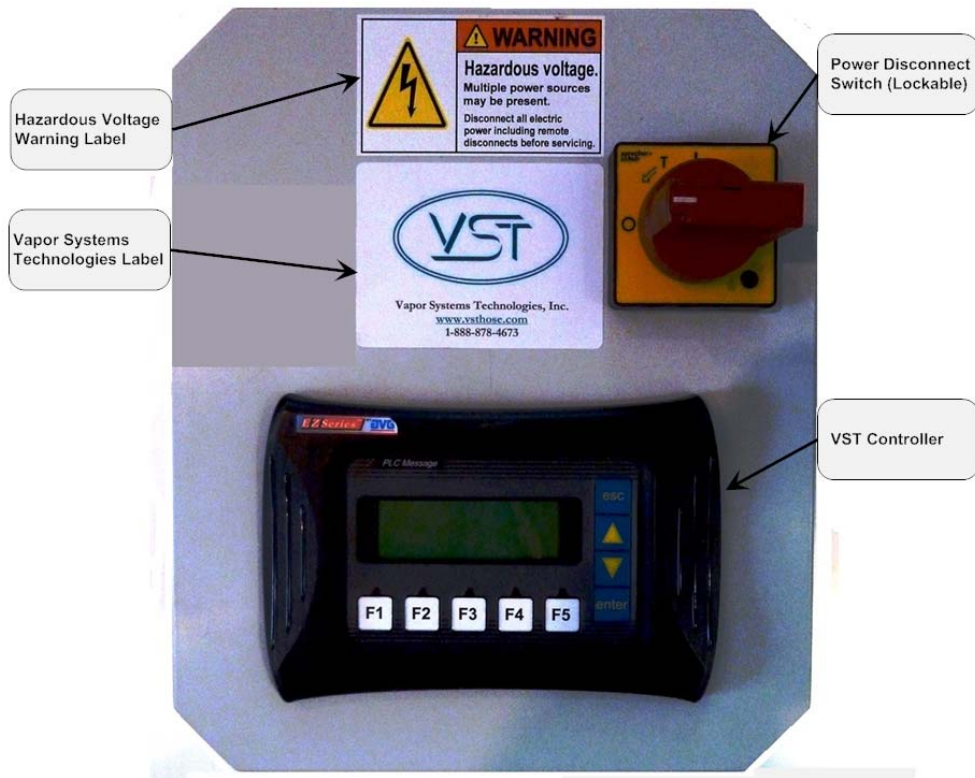

Figure 12: VST Green Machine Control Panel Front View
- The RS422 to RS232 adapter is attached to the top of the VST Control Panel. **See figures 12 & 13.**